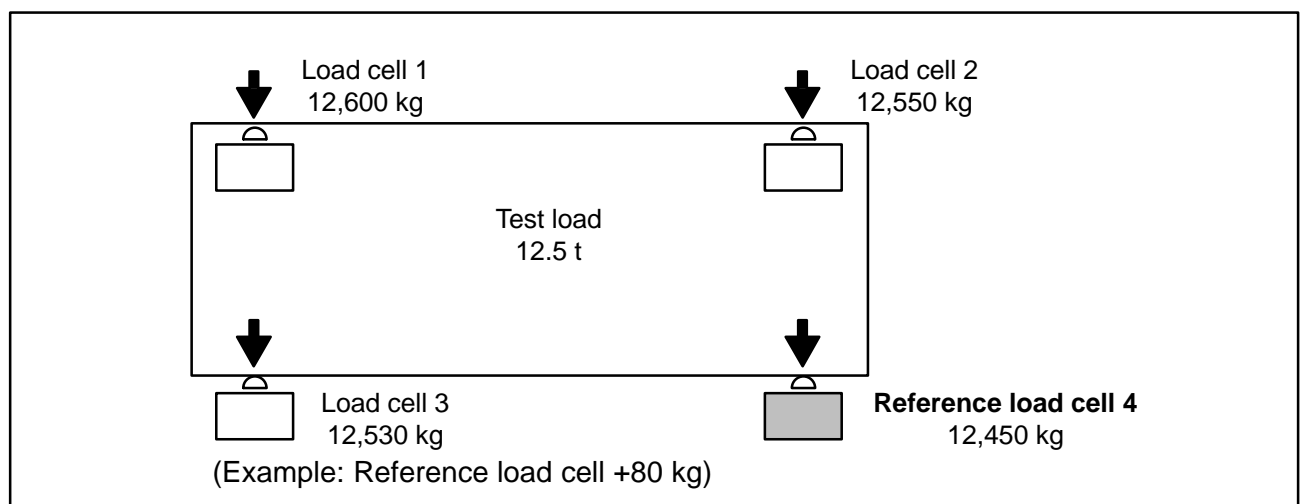

Fig. 6.1: Typical Platform weighing machine with four load cells with 12.5 t test load
- When the four corners of the platform are loaded, note the weighing machine signals in order to assess the respective differences (in kg) to the corner of the weighing machine (load cell) with the lowest indication. This load cell is the reference load cell (4) and does not need balancing (in the example in Fig. 6.1, load cell 4).